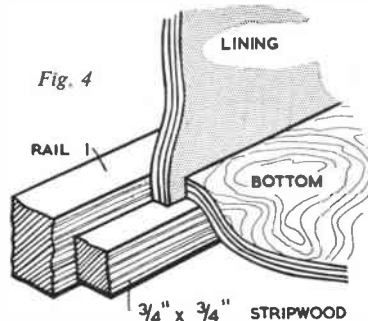
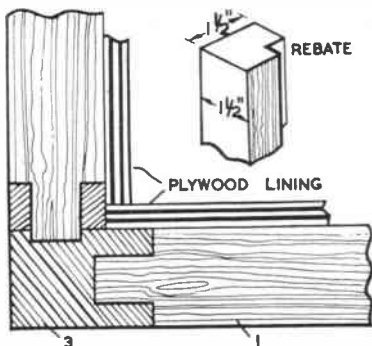

Fig. 4
Fig. 3
The corner posts (3) shown in Fig. 3
The next step is to screw and glue ¾ in. stripwood all round the bottom, fixing to rails (1) and (4) as shown in Fig. 4. These strips are to receive the plywood bottom.
dry. Test to ensure that everything is square and true before the glue sets. The next step is to screw and glue ¾ in. stripwood all round the bottom, fixing to rails (1) and (4) as shown in Fig. 4. These strips are to receive the plywood bottom. The sides and ends can now be lined with ½ in. or ¾ in. plywood or hardboard. Plywood can be obtained in plain birch faced, which is quite cheap, or in more expensive mahogany, oak, sapele or walnut faces. More expensive still, but very attractive indeed, are the Waverite wallboards, faced with plastic laminate, which are ideally suited for the purpose. The sketch in Fig. 4 shows how the lining and bottom are fitted. The bottom should be ½ in. or ¾ in. plywood. It need not be fixed to the supporting strips.
your camera produces. At the business end of the tube fit two doors, hinged by strips of black paper, so that no light can penetrate. The action of these doors is shown in Fig. 3, where the left door is open for the first exposure, and in Fig. 4, where we are making the second exposure. The panel in the centre of this diagram indicates the finished picture.
This trick of double exposure can be used for many amusing pictures provided you are careful in the initial setting. For example, you may take one half of your friend leaning out from behind a thin tree, as shown in Fig. 3, while the other half reveals that he has no body. This can be done by careful alignment of the tree and camera, and exposing as indicated. A similar example of this is shown in Fig. 1, where the two boys are apparently each holding an apple in the centre of the picture.